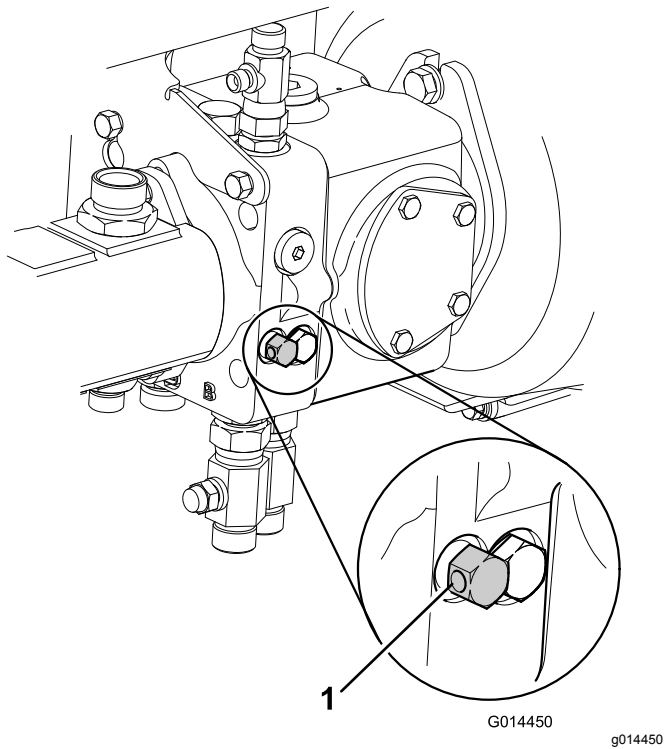

Figure 4
7. Decommission the hydraulic service system by turning the bypass valve, located under the transmission pump, counterclockwise, a maximum of 3 turns (Figure 4).